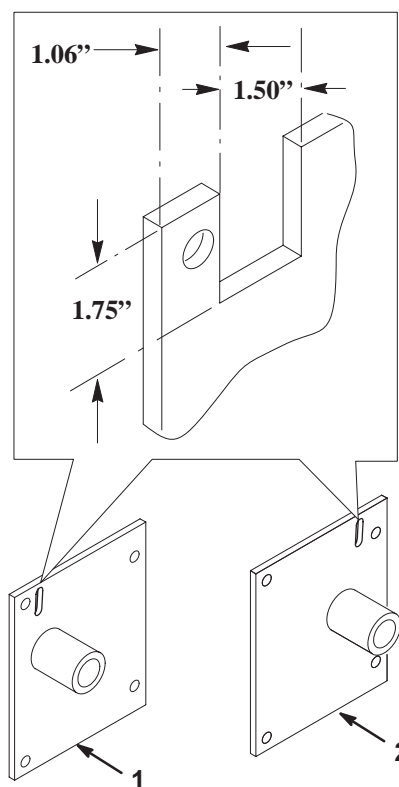

Figure 7
7. Using dimensions shown in figure 7, locate, mark and cut a notch in left and right hopper mounting brackets.